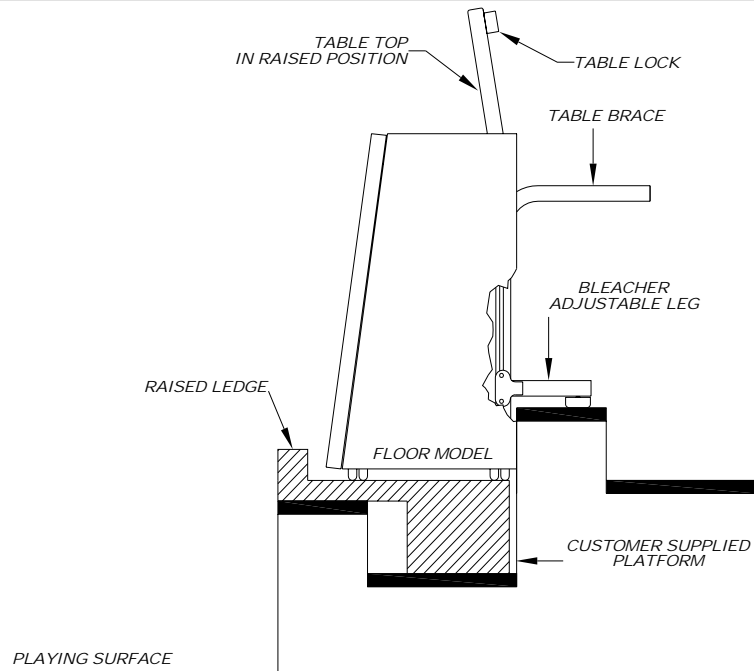

Figure 4
3. Roll the scoring table to the bleachers, lift the table top all the way up and swing out the table legs on both sides. Lower the adjustable legs so they rest on the first bleacher seat. Lift the table brace to engage the adjustable leg. Lower the table top on the table braces making sure that the table braces are secured into the locks on the lower surface of the table top. **(See Figure 4)**